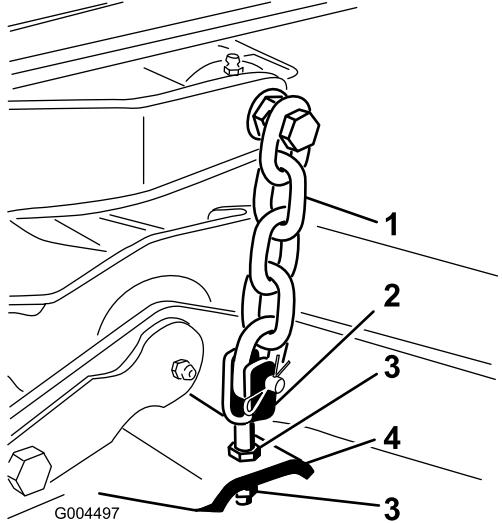

Figure 24
- Adjust the jam nuts securing the mower yokes/chains to the mower until the mower is level (Figure 24).
- Adjust the jam nuts securing the rear mower yokes/chains to raise the rear of the mower so that the blade pitch is set to 5/16 inch (8 mm) (Figure 24).